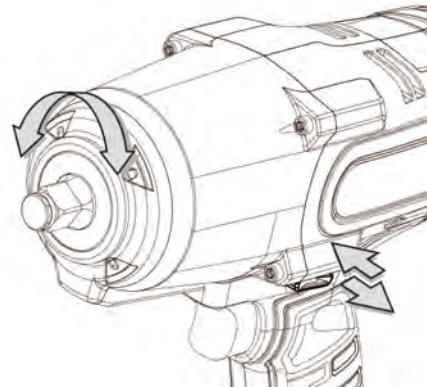

Fig.2
4. For reversing the machine, (See Fig.2) use the forward / reverse rod on the drive unit. The directions of the rotation are also shown on the face of the bar.